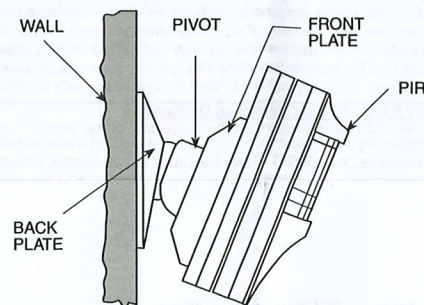

Figure 2. PIR and Adjustable Bracket Installed
2. Position the backplate (1) on the wall in the desired location. Using the backplate, mark the two screw holes to be drilled.
3. Drill the two holes where marked and securely fix the backplate to the wall with the furnished pan-head screws and anchors. Be careful to position the ribs (3) upward.
4. If required, center the backplate ball (11). With your fingers, insert the locking screw (6) into the backplate ball and shift the ball until the hole faces exactly forward. Remove the screw.
6. Punch out the screw hole knockout (5) in the PIR's back (7).
7. Hold the PIR's back with the top side facing up. Insert the front plate mounting standoffs (8) into the holes in the PIR back.
8. Mount the pivot (4) onto the front plate, taking care to position the large curve (10) downward.
9. Insert the locking screw (6) into the hole in the PIR's back (7), through the front plate (9) and pivot (4), and into the backplate ball (11). Turn the screw down **but do not yet secure it tightly**.
12. Reassemble the PIR and walk test in accordance with the installation instructions (see figure 2).